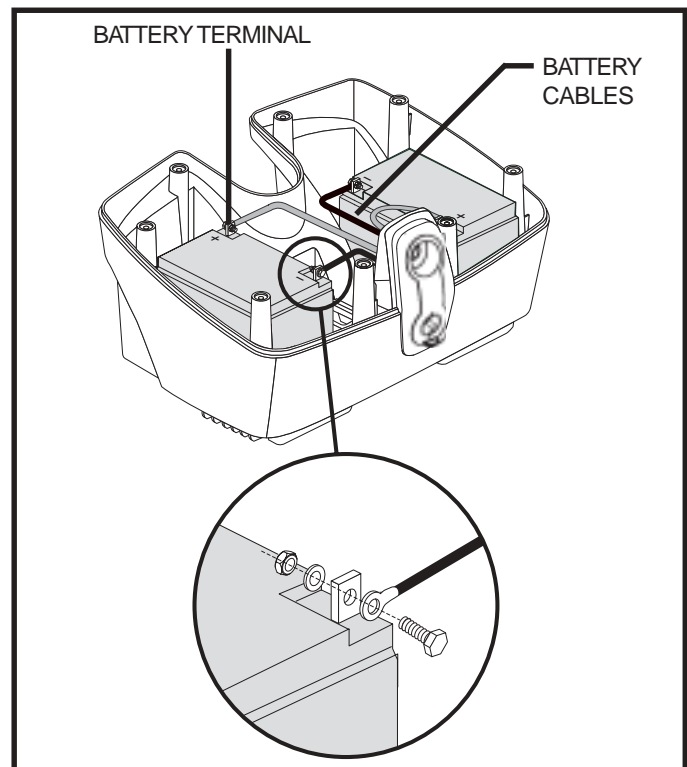

Figure 15. Battery Replacement
3. Remove the eight (8) screws from the perimeter of the battery pack.
5. Disconnect the black (-) and red (+) battery cables from the battery terminals of each battery. **See figure 15.**